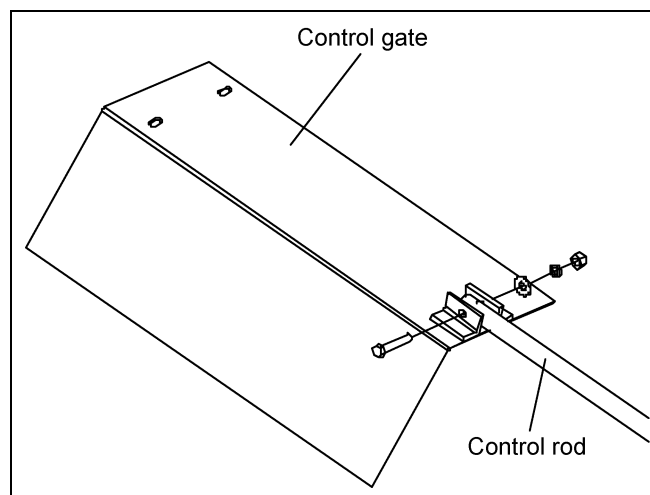

Figure 3M 6" and 8" Center Well Gate
3. Attach control gate to control rod with a 5/16" x 2" bolt, flat washer, lock washer, and hex nut. (See Figure 3M.)